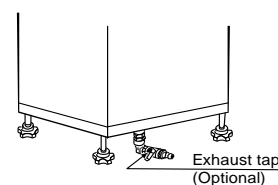

Fig. 7
N.B.: in the models equipped with water discharge (accessory available by request) make sure the exhaust tap of the boiler is closed (fig. 7).
3. **In case the boiler is too much filled** exceeding MAX level, the iron might leak water. Switch off the machine, unscrew the valve plug a little, wait for the exit of the steam, remove the valve plug, wait for the water and boiler to cool down, then rotate BARBARA 27 PORTABLE MODEL rightwards in such a way that the excess water goes out (see section 8). In the models equipped with exhaust tap, open it with care (fig. 7).
Unscrew and remove the valve plug and open the exhaust tap (fig. 7).